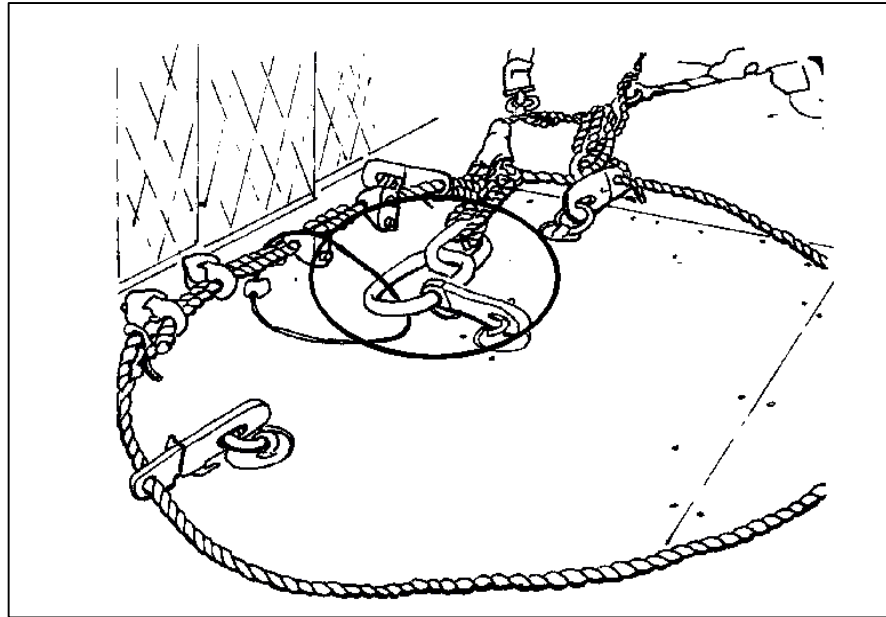
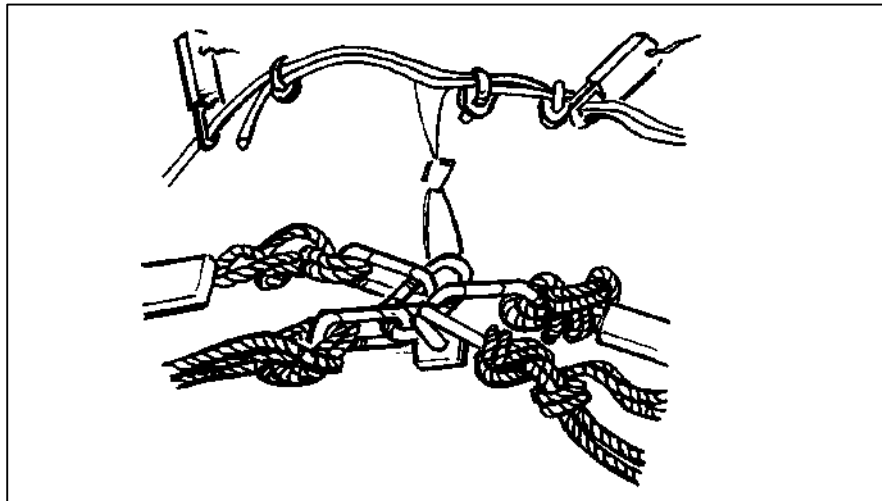

Figure 3-5. Rappel rope connection using two snaplinks for the floating safety ring.
Figure 3-6. Four rappel ropes connected to the floating safety ring (two snaplinks).
(2) *Number 2 anchor point (floating ring).* Attach the No. 2 snaplink the same as the first with some exceptions. Using a bight about 2 feet from the end of the standing part of the rope, connect the snaplink to the rope the same as the first connection. Tape the end of the standing part of the rope and the knots with masking tape (or green engineer tape) to secure them in place. Make the connection to the floating safety ring the same as the connection to the donut ring (Figure 3-5). Four ropes can be connected to the floating safety ring using two snaplinks (Figure 3-6).